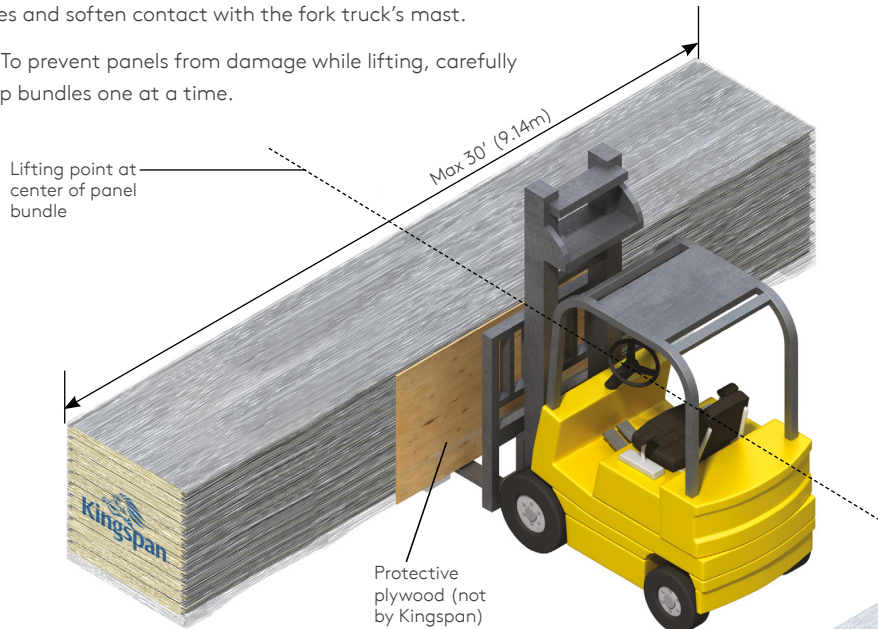
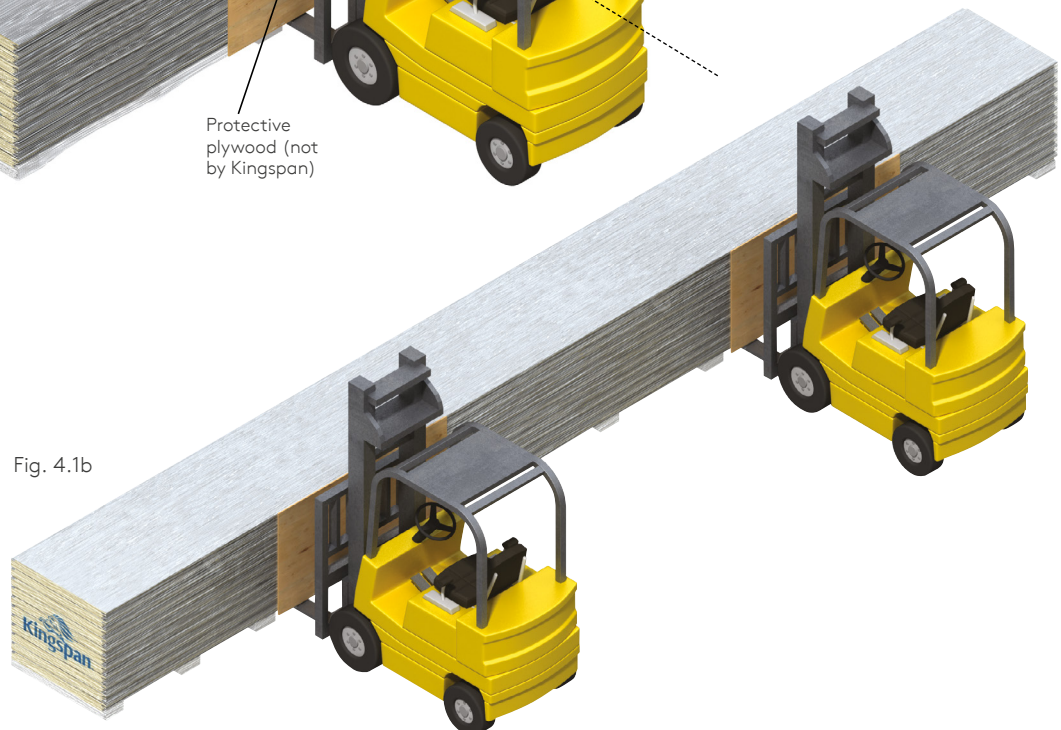

Fig. 4.1a
Fig. 4.1b
4.1.1 The recommended loading / unloading method for bundles less than or equal to 15' is to use a single forklift with widely spaced forks (minimum 48") placed under the center of the bundle as shown in Figure 4.1a. Panel bundles over 15' in length may be moved by using two forklifts spaced equally along the length of the bundle as shown in Figure 4.1b. Inspect travel route to assure a reasonable level and compacted surface free of ruts and excavations. Use care to not over engage forks, use of foam blocks on the mast can help prevent fork damage to adjacent bundles and soften contact with the fork truck's mast.